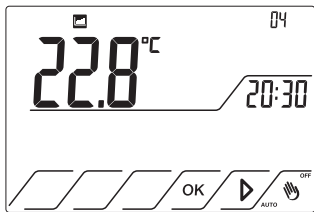

Fig.52
13.6 Press ► to move on page 4. Fig.52